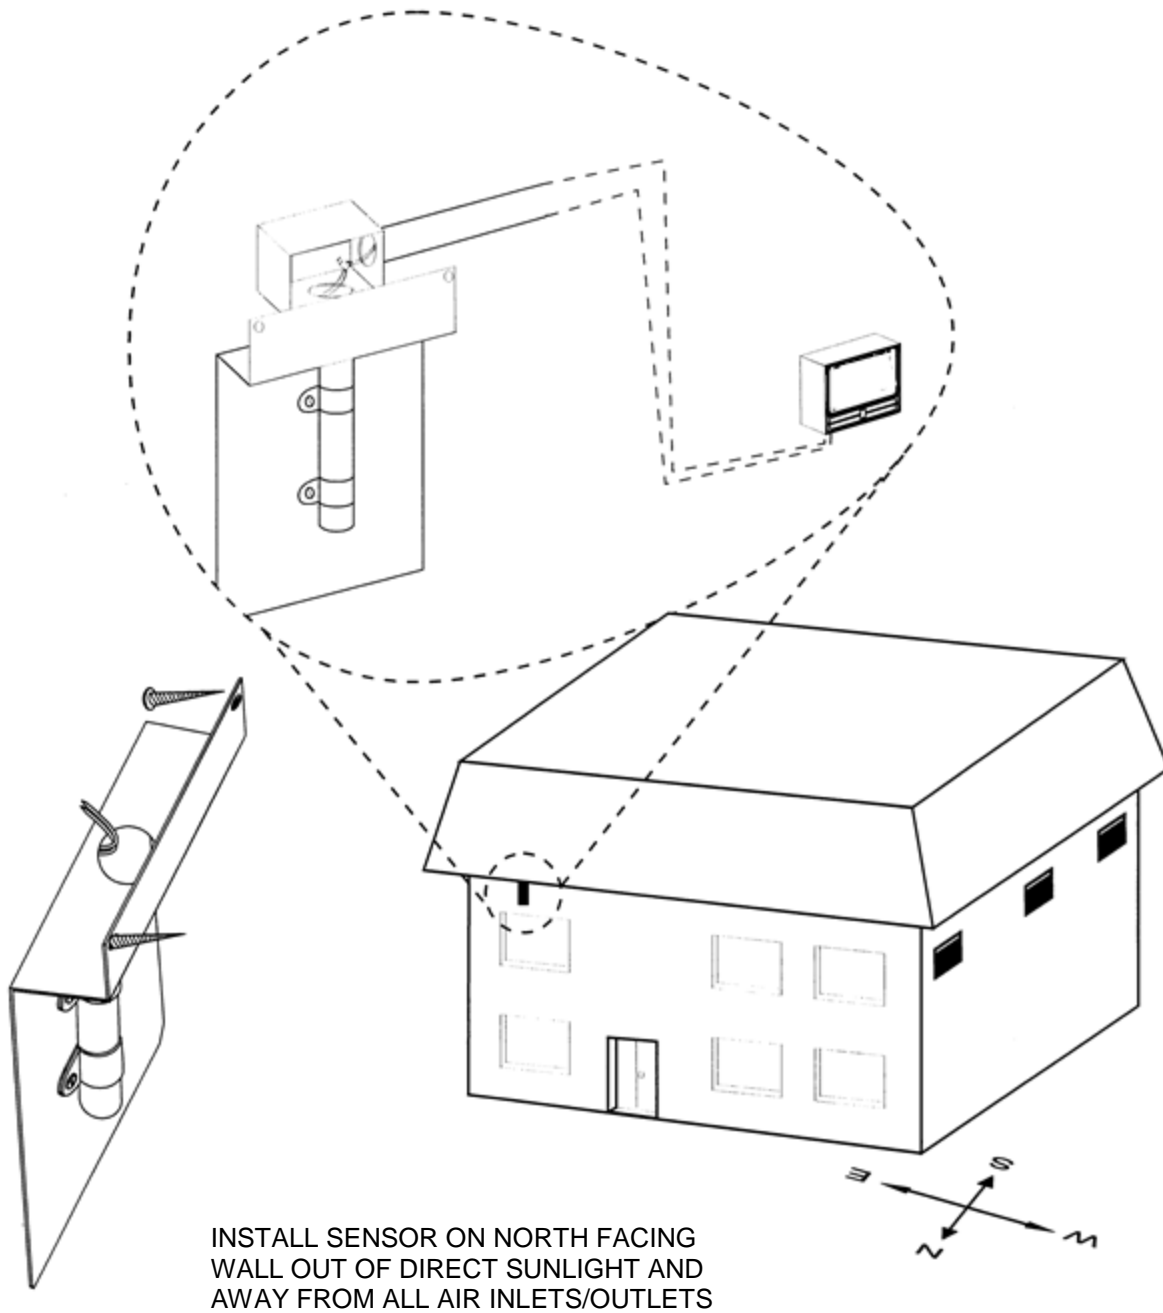

Figure 2-4: Outdoor Air Sensor Installation
1. Refer to Figure 2-4 for a typical Outdoor Air Sensor installation.